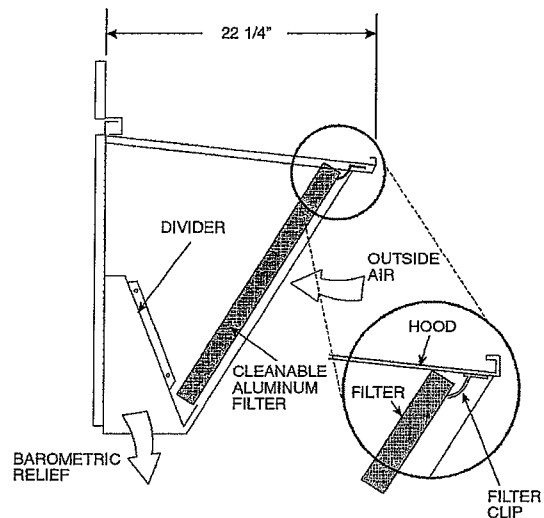

Fig. 31 — Filter Installation
7. Open the filter clips which are located underneath the hood top. Insert the aluminum filter into the bottom filter rack (hood divider). Push the filter into position past the open filter clips. Close the filter clips to lock the filter into place. See Fig. 31.